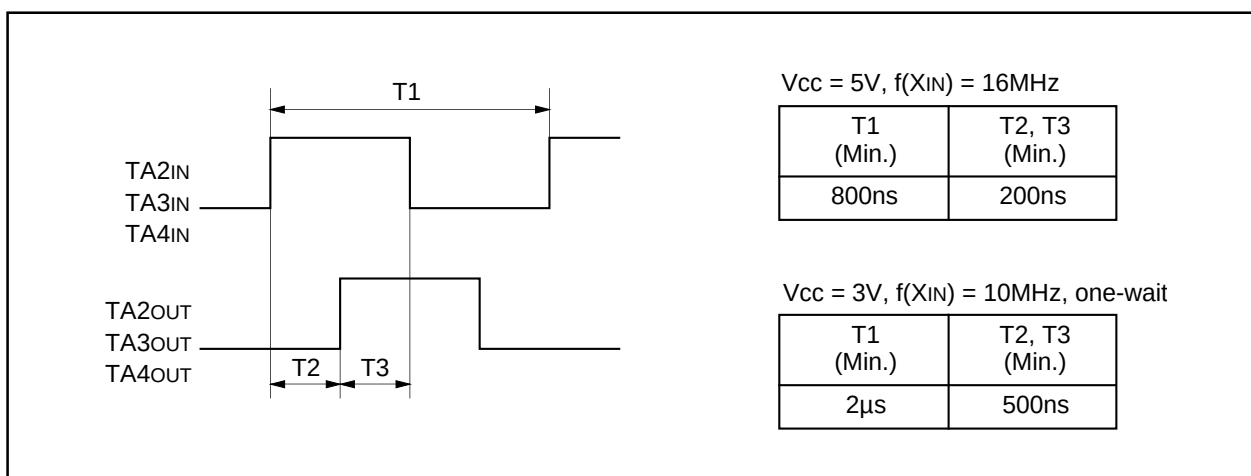

Figure 2.2.30. Standard of 2-phase pulses
- (3) Please note the standards for the differences between the 2 pulses used in the 2-phase pulse signals input signals to the TAIN pin and TAIOUT pin ($i = 2, 3, 4$), as shown in Figure 2.2.30.
- (4) When free run type is selected, if count is stopped, set a value in the timer Ai register again.